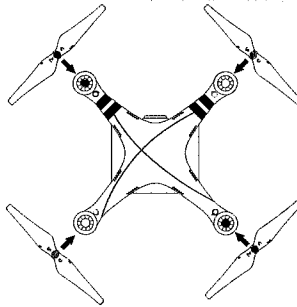

Fig.2
- (Fig.2) Prepare the two grey nut propellers and two black nut propellers. Make sure to match the black nut propellers with the correctly marked black dot motors. Tighten the propellers according to the fastening instructions.